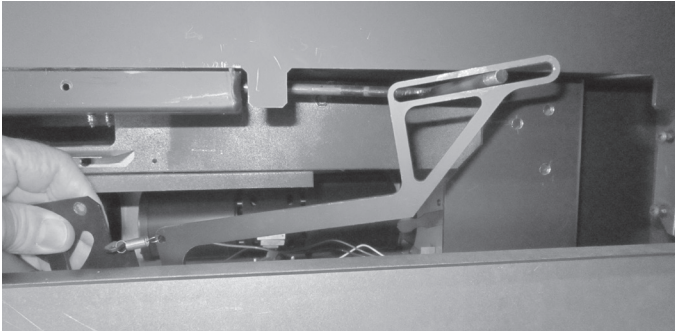

**Figure 4.23 Inserting Timer Assembly**
9. Install the timer/linkage by inserting the timer in first and slipping the linkage over the rod. See Figure 4.23.